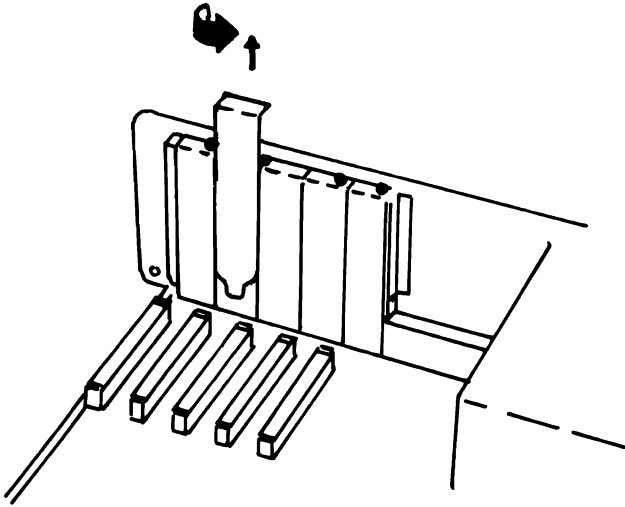

Figure 14
3. Face the front of the computer or expansion chassis. Remove the slot cover in the leftmost chosen slot by loosening and removing the screw at the top which holds it in place (See Figure 14). Set the slot cover and screw aside.